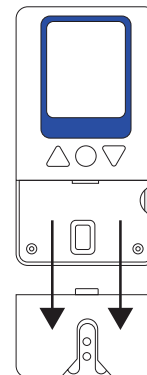

Fig. 10
2. To clean the PortaReader™ optic area, first remove the nest (Fig. 10). To remove the nest, gently apply pressure and pull the nest down and away from the display. Do not lift the nest up and away from meter as this could damage the nest. To clean the optic area, use a microfiber cloth dampened with water. Make sure the area is completely dry before replacing the nest.